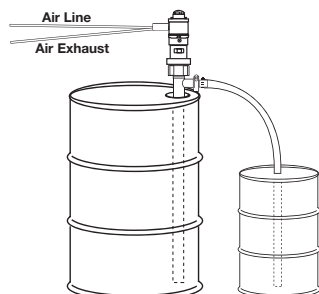

Figure 2
3. It is recommended to attach a suitable hose or pipe to the pump discharge (see Figure 2).
- Install the Pump and Static Protection Kit as described in Figure 2 on page 7.